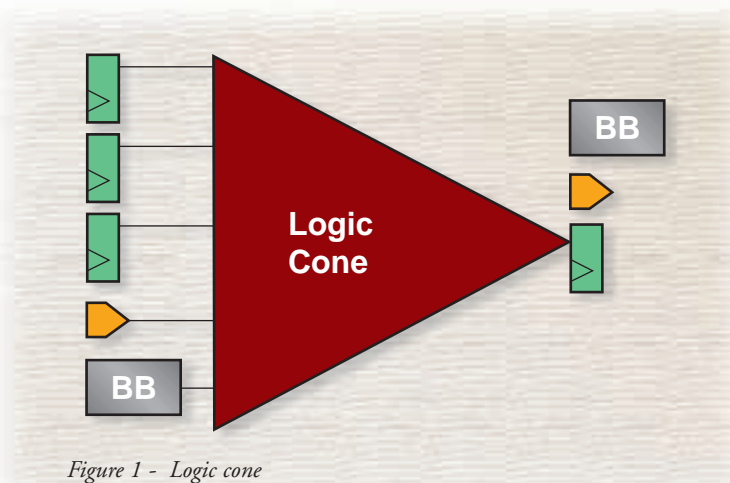

Figure 1 - Logic cone
EC is a branch of static verification that employs formal mathematical techniques to prove that two versions of a design are functionally equivalent. In the first stage of the process, both versions of the design are read into the equivalence-checking tool. During the read process, each design is automatically segmented into manageable sections called “logic cones.” Logic cones (Figure 1) are groups of logic bordered by registers, ports, or black boxes (BB). The output border of a logic cone is referred to as a “compare point.”